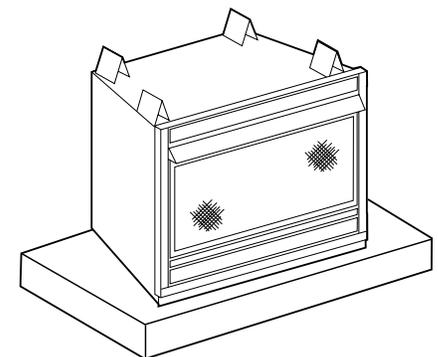

Figure 16
**Step 8. Position Heater** – Place the heater in desired location. It may be helpful to temporarily assemble the surround around the appliance to properly locate the unit. Refer to *Figure 16* for floor and platform installations. If the heater is to be installed into a framed wall refer to the built-in assembly steps beginning on page 4.